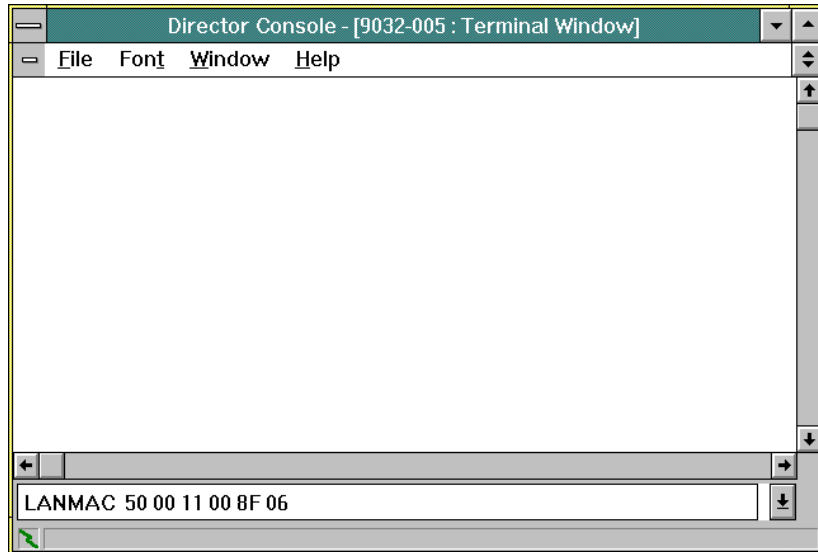

Figure 192. Terminal Window
- 5. Type a maintenance authorization password (default is **LEVEL002**) and click the *OK* button. The *Terminal* window appears (Figure 192).